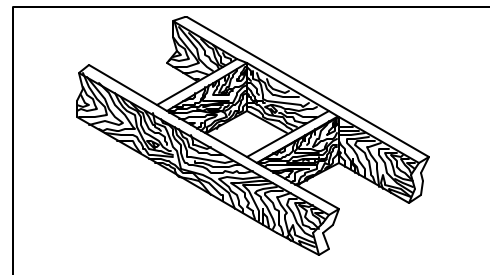

Figure 13
11. Cut and frame square holes in all floors and the roof to provide a 2" (50 mm) clearance between the chimney and any combustible materials. Do not fill this 2" (50 mm) space with any material (see Figure 13).
Cut and frame the holes in the ceiling, floor and roof where the chimney will pass (see Figure 13). Use a plumb bob to line up the center of the holes. The hole sizes are indicated in Table 2 for the floor and ceiling holes and Table 3 (page 20) for the roof holes.